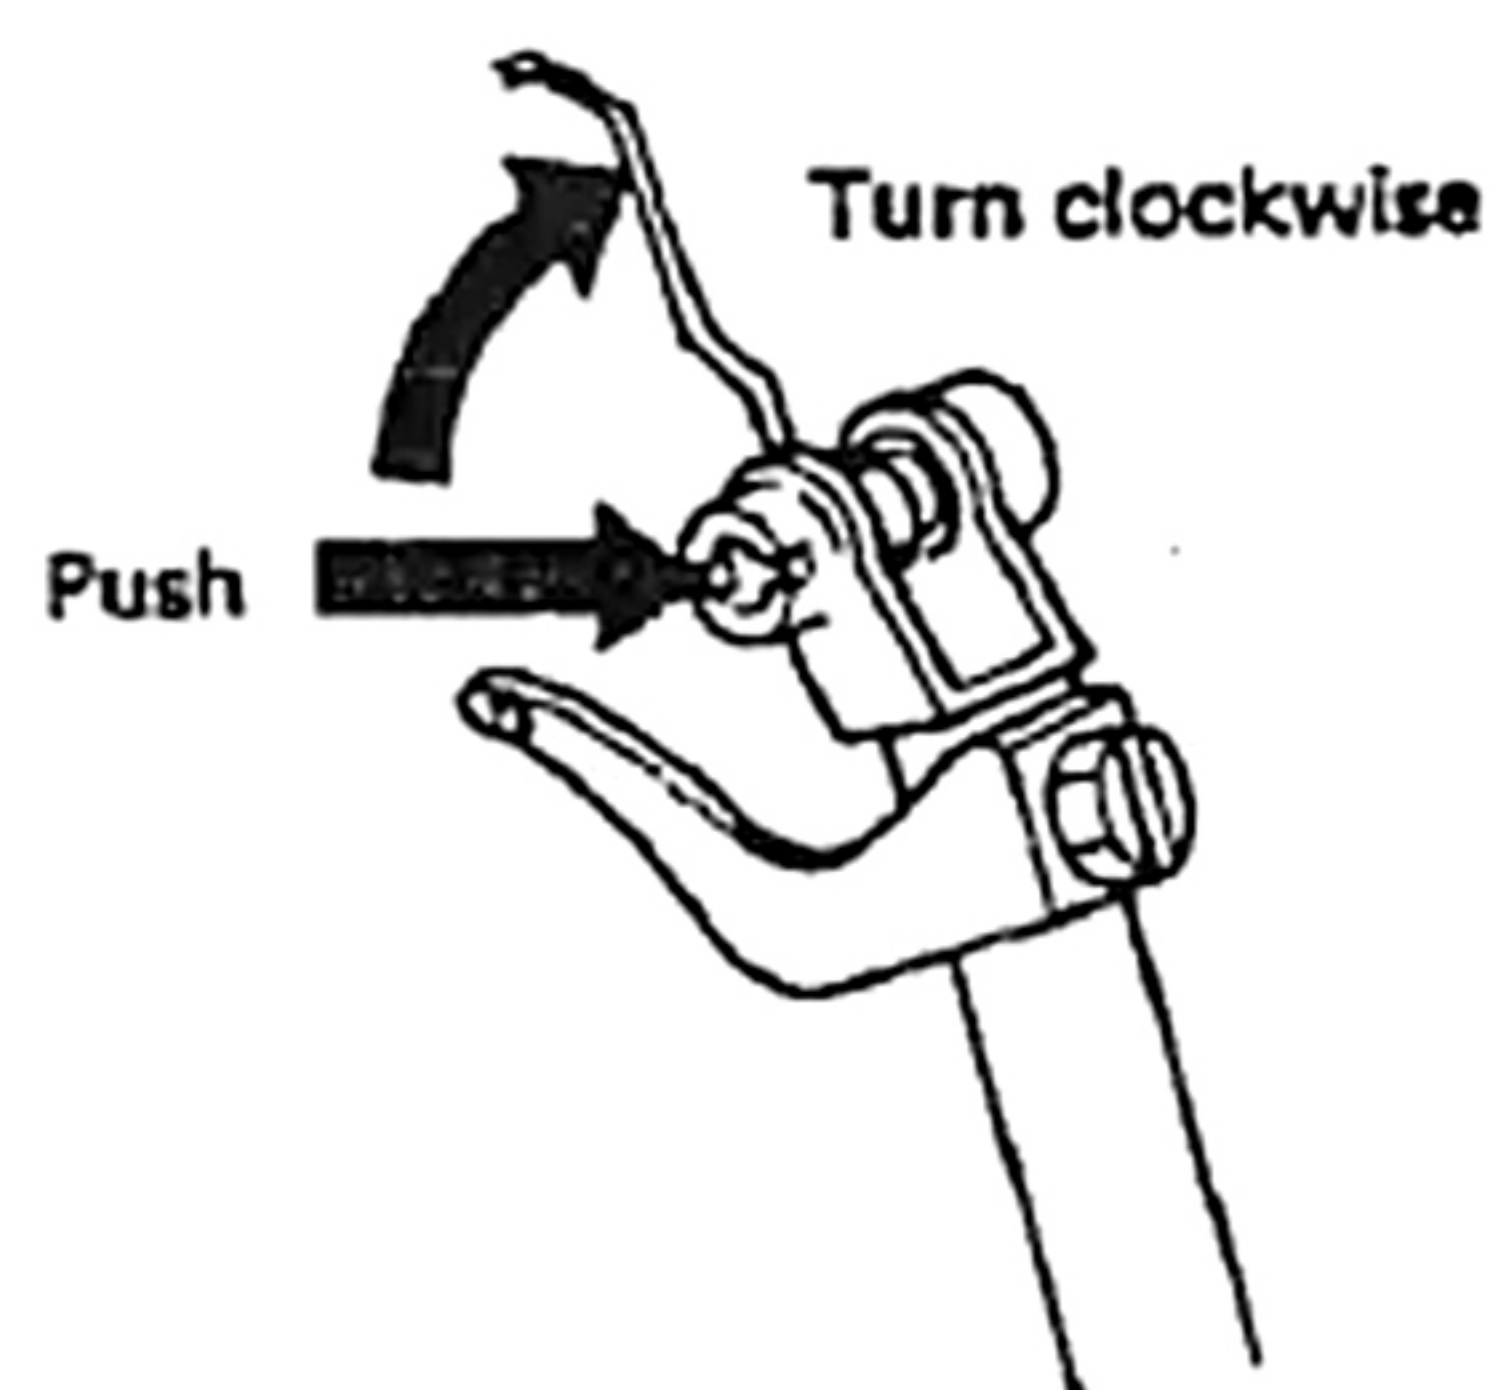

Figure 43
3. With a finger or screwdriver, push the brass screw to the back of the machine and turn clockwise to the "up" position (Figure 43).